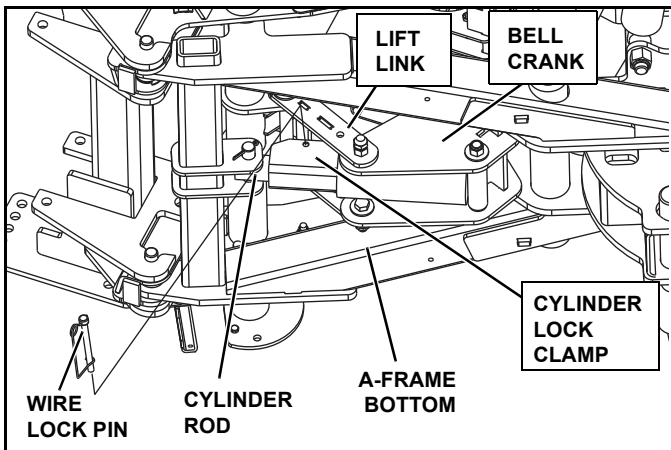

Figure 1-21
5. Position the cylinder lock clamp around the exposed (chrome) portion of the lift cylinder with the open side of the cylinder lock up. Install the pin (See Figure 1-21).